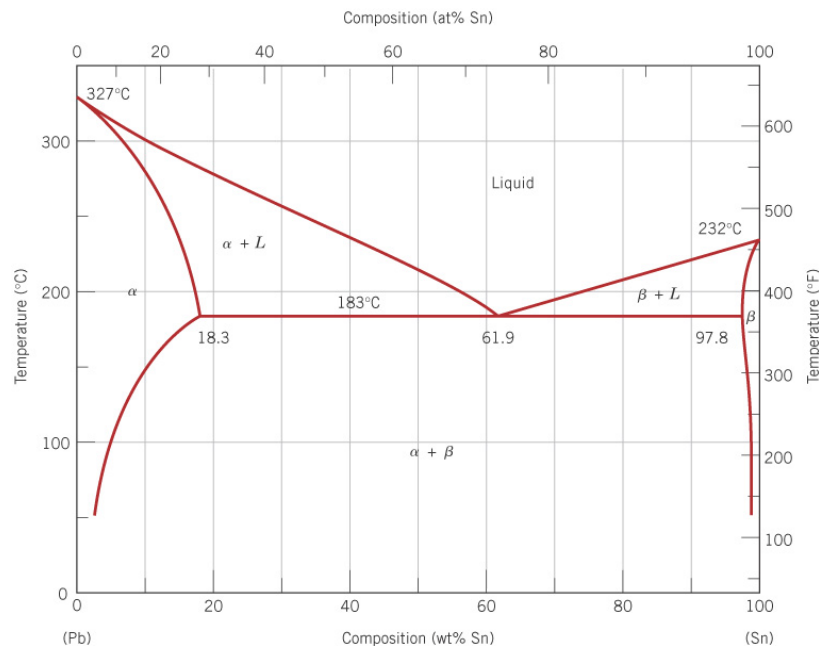

Figure 3
- (b). The lead-tin phase diagram is shown in Figure 3. Consider a 40 wt% Sn-60 wt% Pb alloy on the lead-tin phase diagram, at 183.1 °C, just above the eutectic line.